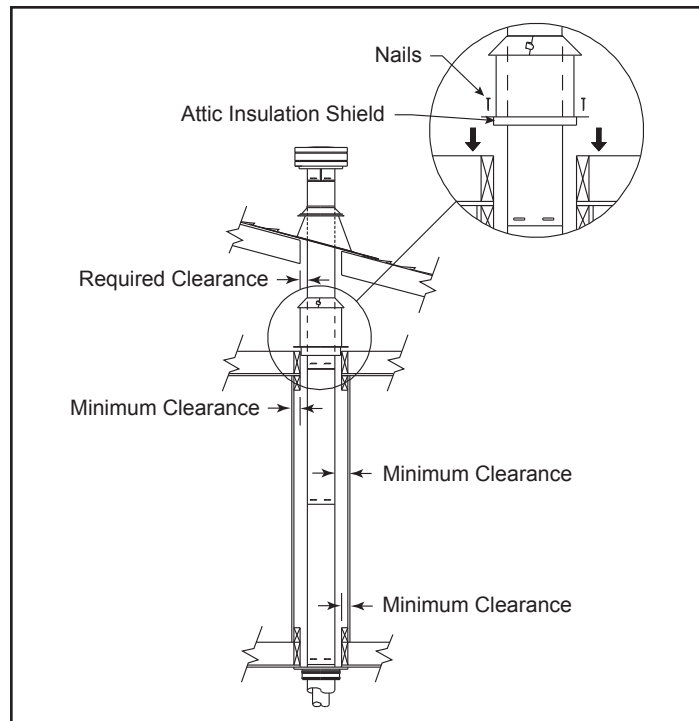

Figure 37
1. For multi-story vertical installations, a ceiling firestop is required at the second floor, and any subsequent floors, Figure 37. Cut and frame a 9" x 9" (229 mm x 229 mm) square opening for installation of the ceiling firestop.
3. If venting system passes through an attic space an attic insulation shield must be installed to prevent contact between pipe sections and the insulation. Nail the base to floor of attic and adjust shield for appropriate insulation level, then attach the collar at the top of assembly, Figure 37. For vaulted ceilings, the attic insulation shield cannot be installed. To prevent building insulation and other debris from entering the support box or contacting the pipe, a chase enclosure can be constructed around the support box. Ensure proper clearance to combustibles are maintained.